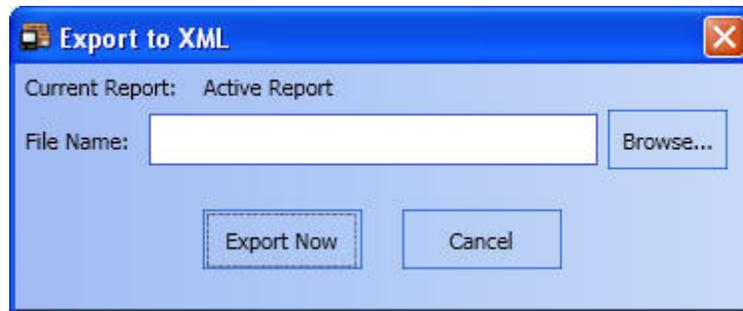

Figure 3-24 Export XML Dialog Box
2. In the **Export to XML** dialog box that opens (Figure 3-24), click on the **Browse** button to choose a location and a name for the XML file.